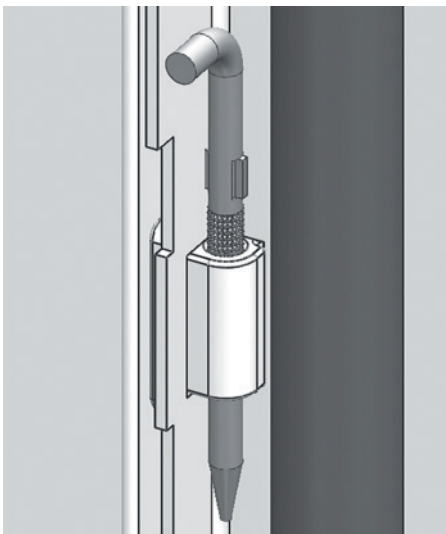

Fig.3.2: Forbidden position
- Fig.3.2 shows the forbidden position